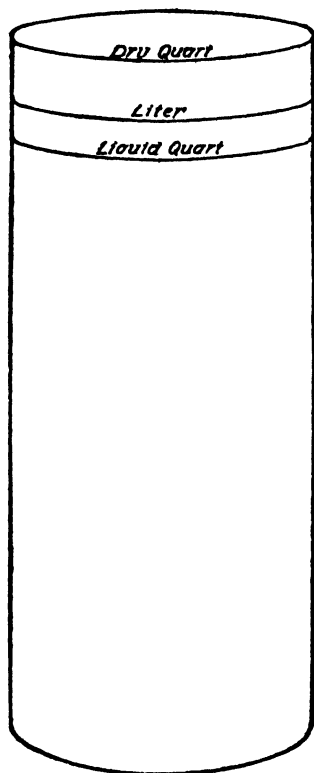

Fig. 7. Comparison of Liter, Dry Quart, and Liquid Quart.
In the metric system the unit is the *liter*, which is 5% larger than the liquid quart and 10% smaller than the dry quart, Fig. 7.
*The dry quart is about 15% larger than the liquid quart. Fig. 7.